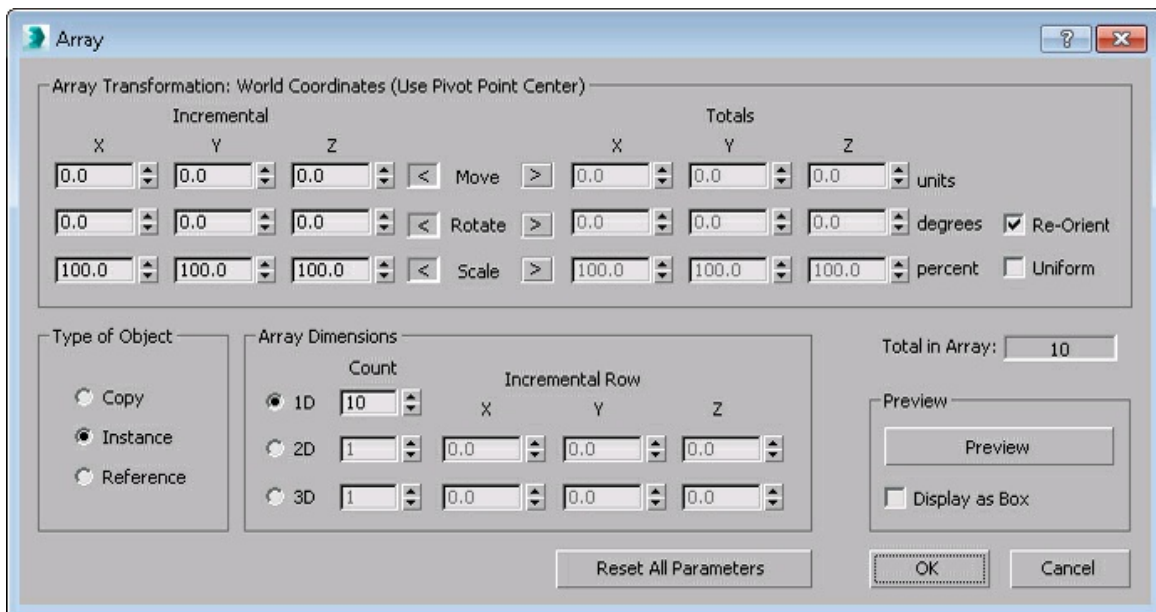
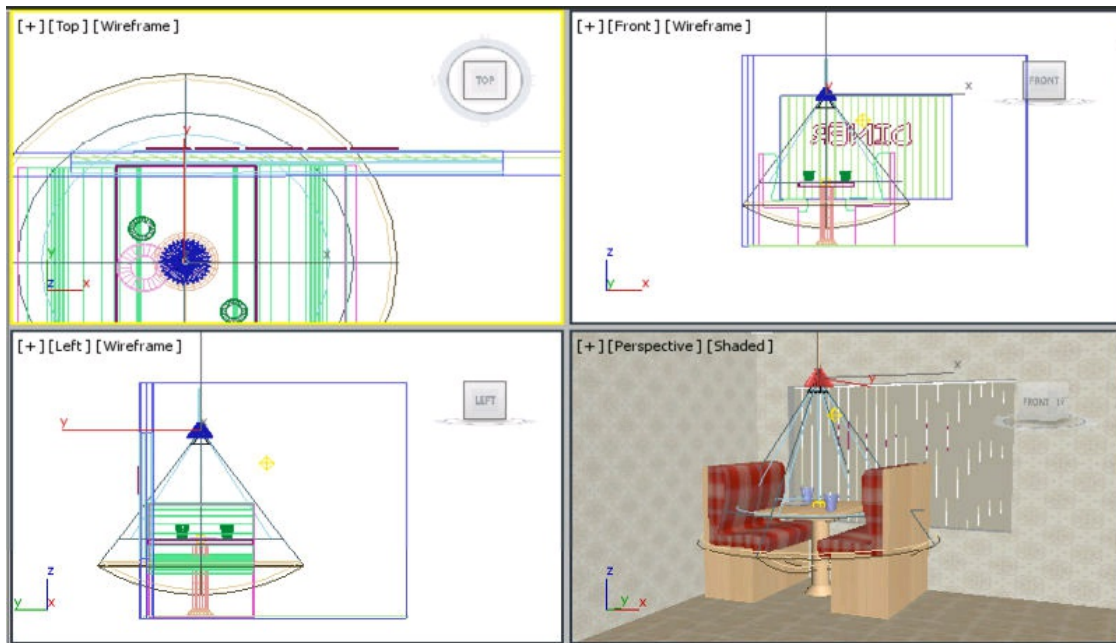

Figure P1-24 The Array dialog box
Figure P1-25 The blinds created using the **Array** tool
10. Make sure *Blind01* is selected and choose **Tools > Array** from the menu bar; the **Array** dialog box is displayed, as shown in Figure P1-24. Choose the **Reset All Parameters** button in this dialog box. Set the value **3.6** in the **Incremental X** spinner in the **Move** row. In the **Array Dimensions** area, make sure the **1D** radio button is selected and set the value **22** in the **Count** spinner. Next, select the **Copy** radio button in the **Type of Object** area and choose the **OK** button; 22 blinds are created extending across the window, as shown in Figure P1-25.